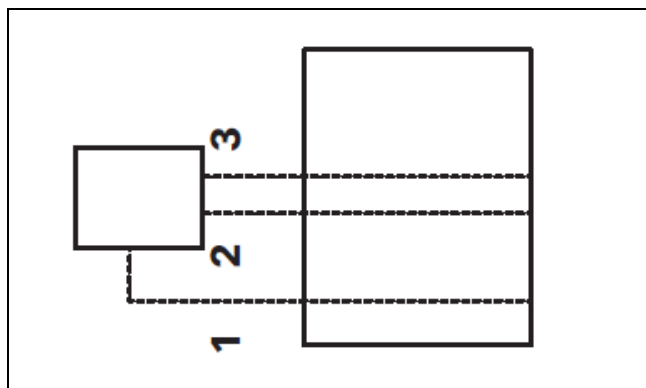

Figure 60
3. Make the electrical connection. See Figure 60.